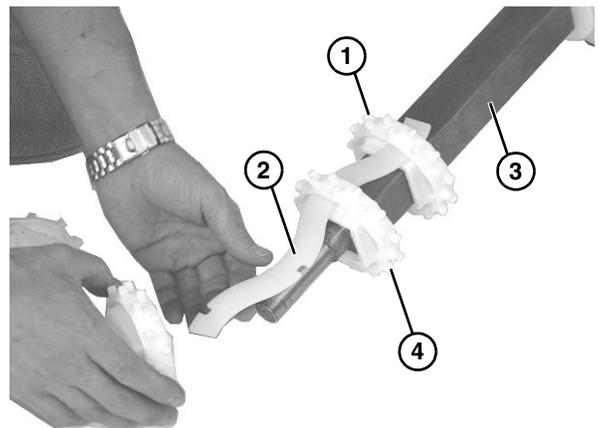

Figure 40
13. To assemble sprockets onto drive spindle, slide one sprocket (**Figure 40, item 1**) onto alignment bar (**Figure 40, item 2**) and slide assembly onto drive spindle (**Figure 40, item 3**).
14. Install second sprocket (**Figure 40, item 4**) and subsequent sprockets one by one, while sliding entire assembly onto alignment bar and spindle.